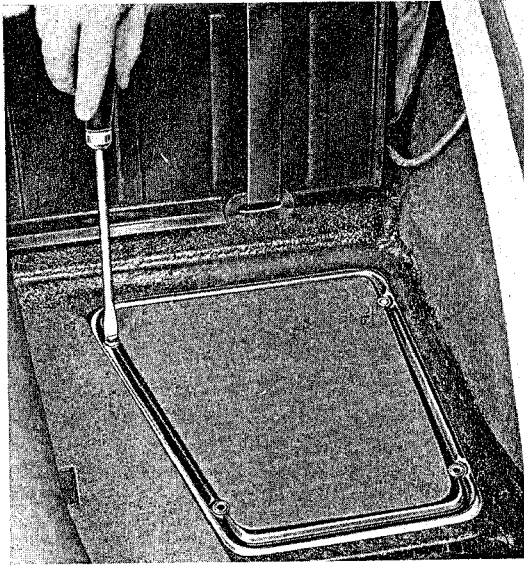

Fig. 73
2. Remove cover to steering box (fig. 73)